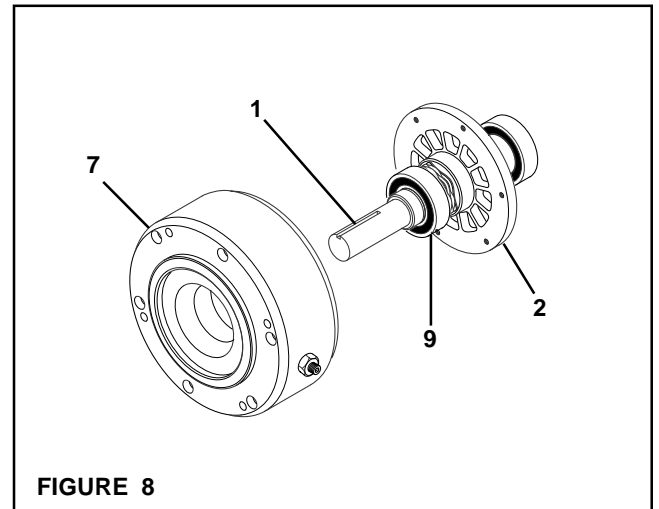

FIGURE 8
5. Press the Shaft (Item 1), Ball Bearing (Item 9), and Rotor (Item 2) from the Housing (Item 7) (See Figure 8).